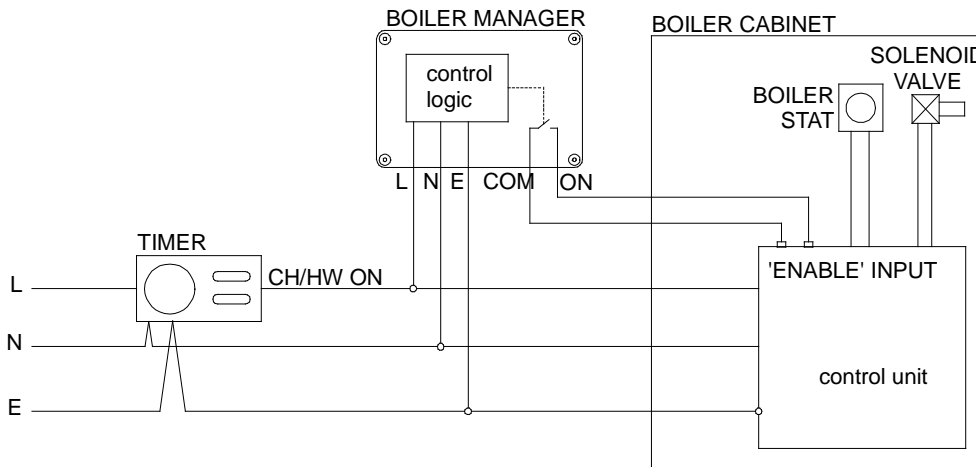

FIGURE 5: WIRING DIAGRAM (INTELLIGENT CONTROL BOARD SYSTEM)
- In fault-sensing systems with intelligent control boards, the Boiler Manager output contacts must be connected to a feed or control input on the board that turns off the gas valve whilst the switch is open. See the wiring diagram in Figure 5. Refer to the manufacturer's instructions for connection identification on the control unit.